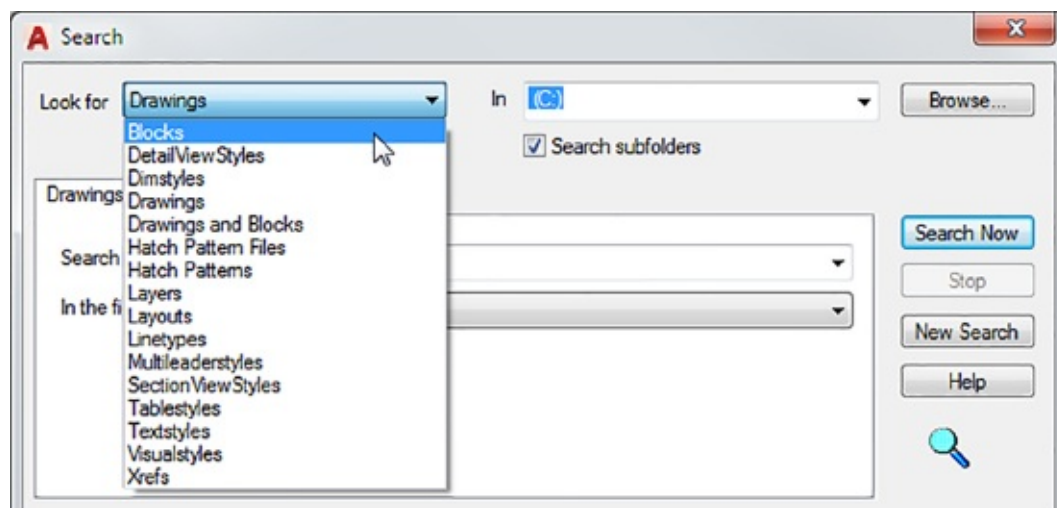

FIGURE 25.29 Select Blocks from the Look For dropdown list.
3. Select Blocks from the Look For dropdown list. As you can see from the list, you can look for a variety of drawing component types (see Figure 25.29).